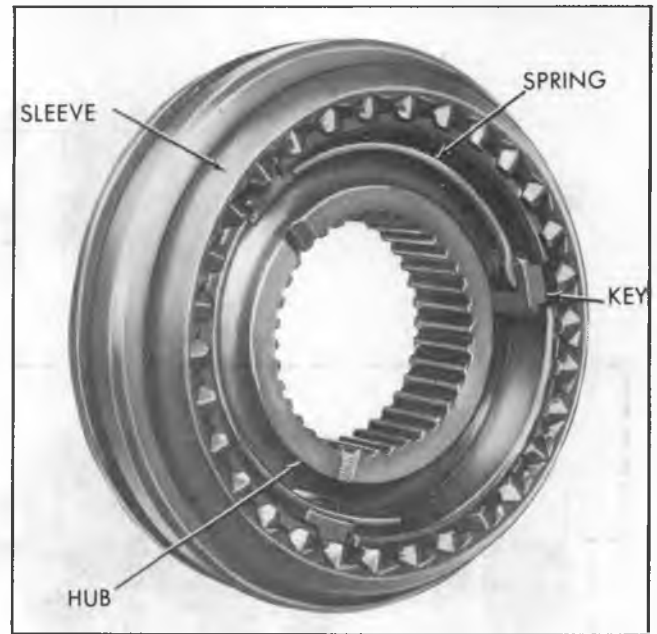

Fig. 4A-Synchronizer Assembly
3. Place the three keys and two springs in position (one on each side of hub), so all three keys are engaged by both springs (fig. 4A). The tanged end of each synchronizer spring should be installed into different key cavities on either side. Slide the sleeve onto the hub aligning the marks made before disassembly.